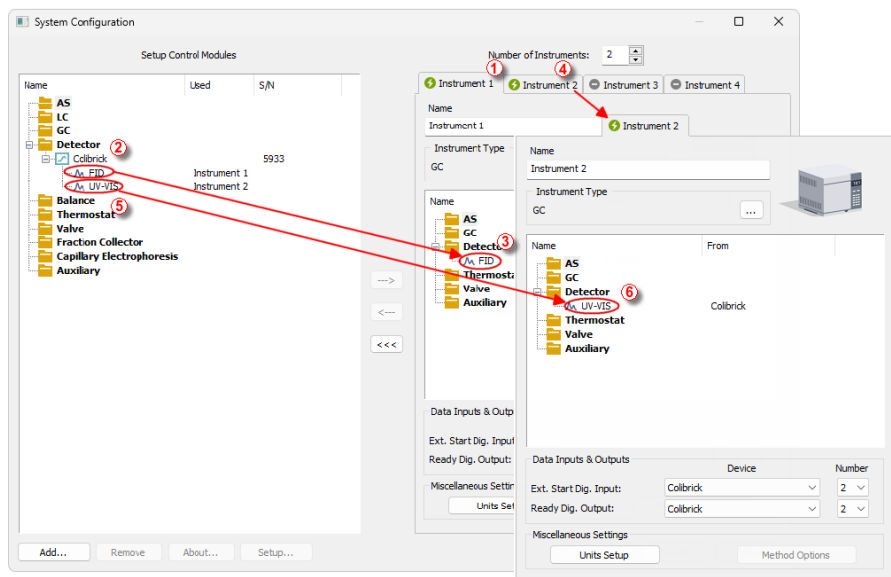

Fig. 8: System Configuration – multiple instruments
**Clarity** allows to measure on multiple Instruments using a single **Colibrick** device, see **Fig. 8** on pg. 11. After you add the **Colibrick** to the *Setup Control Modules* list, select an Instrument you wish to use (1) and drag the individual detector signal - **FID** (2) to the selected Instrument (3). Then switch to another Instrument (4), select the **UV-VIS** signal (4) and drag it to another Instrument. The Instrument to which the particular signal is connected is listed to the right (2) and (5) of the detector name in the *Setup Control Modules* section.